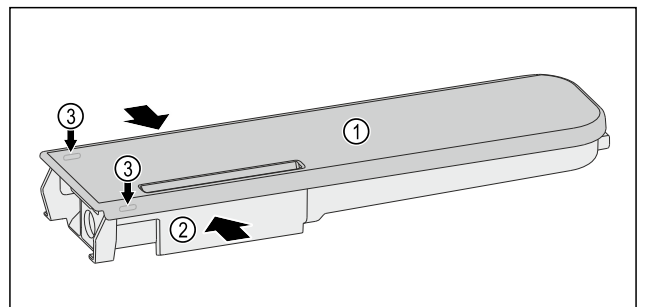

Fig. 132
- ▶ Push the water tanks Fig. 132 (2) together, leverage the cover Fig. 132 (1) carefully over the latching tabs Fig. 132 (3) and lift it up.
- Move the cover Fig. 132 (1) slightly forwards and back, and remove to the top.